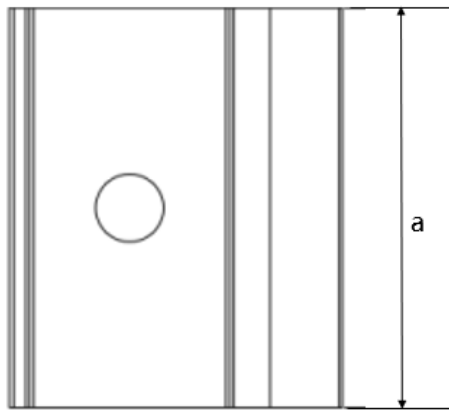
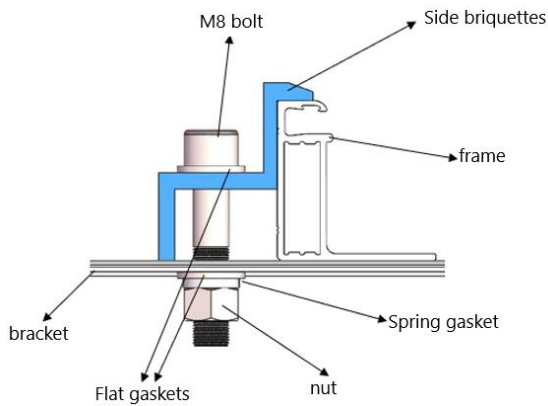

Fig. 7 Top view of fringe clamp
Fig. 9 Installation schematic diagram of fringe clamp
- ② Be sure to avoid shadowing effects from the module clamps. Weep holes on the module frame must not be closed or obscured by the clamps. The clamp must have at least 8mm but no more than 11mm overlap with the frame of the module (The clamp section can be changed under the premise of ensuring reliable installation).
- ③ The top surface of the rail contacted with module frame should be equipped with grooves compatible with an M8 bolt.
- ④ If the grooves are not provided, holes of a suitable diameter may need to be drilled to allow bolts attaching to the rail at the same locations as mentioned above.
- ⑤ Ensure that the mounting sequence of each clamp is in the order of flat washer, spring washer and nut.
- ⑥ Figures 7 and 8 show the schematic diagram of the clamp, while Figures 9 and 10 show the installation schematic diagram of the clamp. The dimensions of the clamp are $a \geq 40$ mm, $b \geq 16$ mm, $c \geq 5$ mm, $d \geq 8$ mm, $e \geq 15$ mm, $\varnothing = 9$ mm, and the thickness of the clamp is ≥ 3 mm. For module of 182/210mm-wafer, the size of mid and fringe clamp must meet $a \geq 60$ mm. The tightening torque is suggested to be 17~23Nm for Class 8.8 screw and bolts.
⑦ To prevent modules from coming off the fixed device after installation, it is suggested to choose fringe and mid clamps and make contact with the A side of the frame with groove patterns. Suggest to have 9 patterns with a space between 2 adjacent patterns of 1.2mm and a depth of 0.6mm, as shown in figure 7.